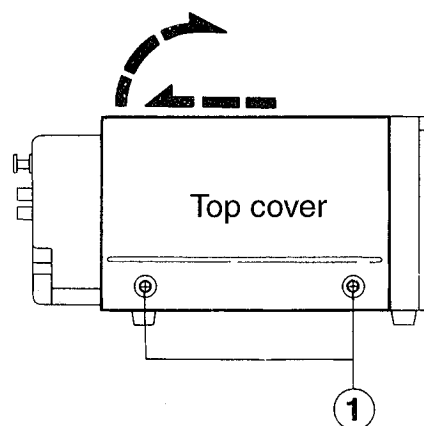

Fig. 1
■ Removing the Top Cover (See Figs. 1~3)
1. From both sides of the body, remove the four screws ① retaining the top cover. (See Figs. 1, 2)